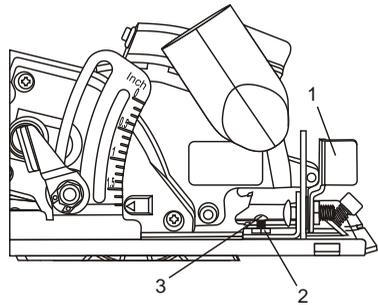

Fig. 4
1. Loosen the bevel locking lever (1) and rotate the sole plate toward the 0° mark as far as it will go and tighten the bevel angle locking lever (Fig 4).
3. If the test cut is not at 90°, turn the zero adjustment lock nut (2) counter clockwise approximately ¼ turn using a 7mm wrench.
4. Use a #2 (+) screwdriver to turn the zero bevel adjusting screw (3) in or out until the saw is cutting at 90° when the sole plate is contacting the adjusting screw.